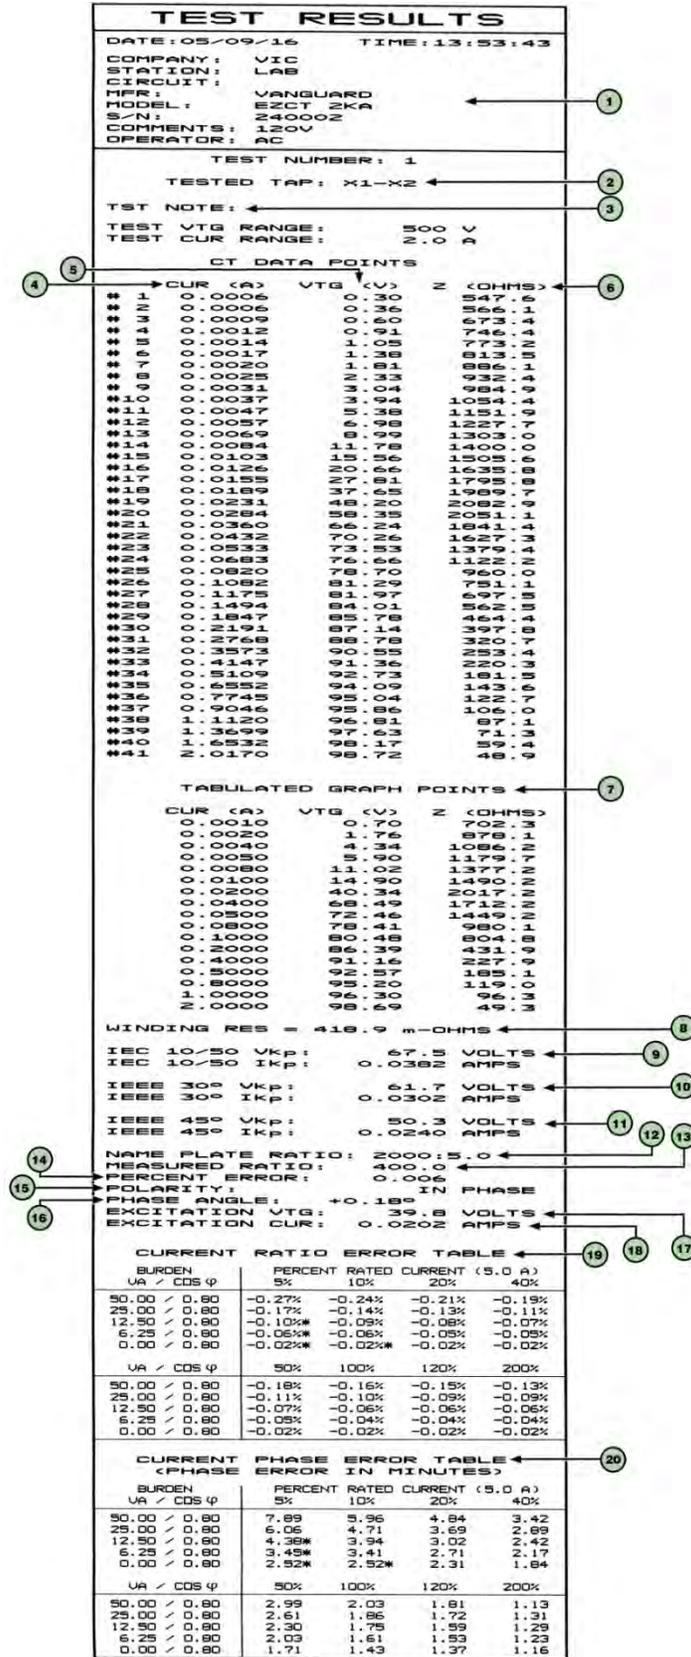
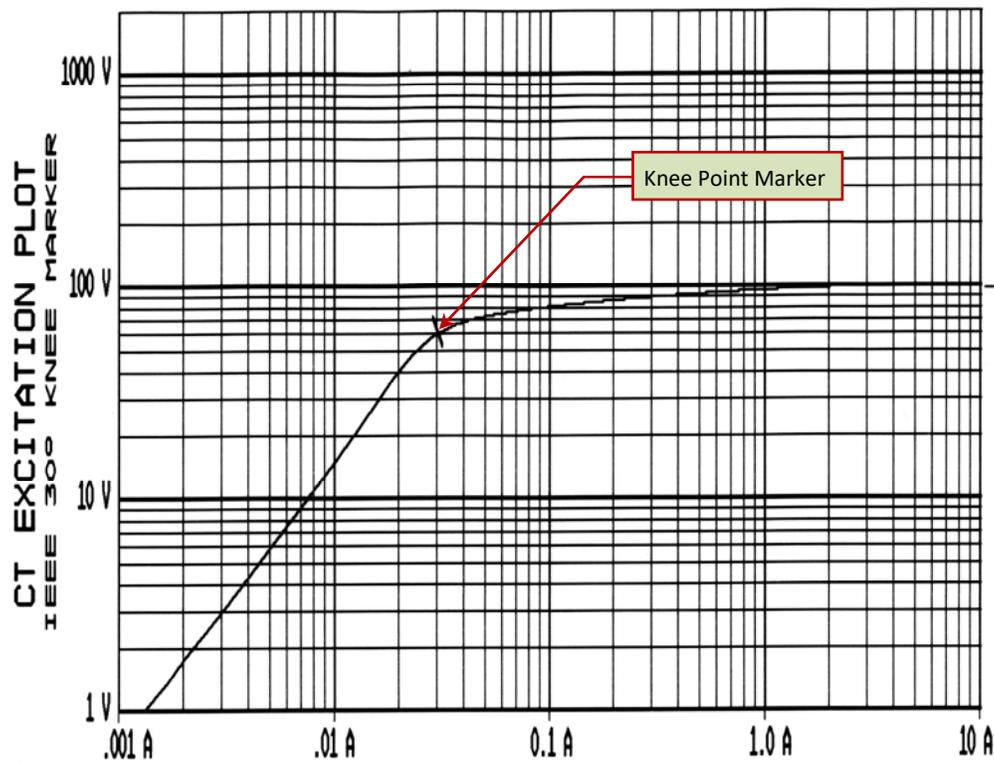
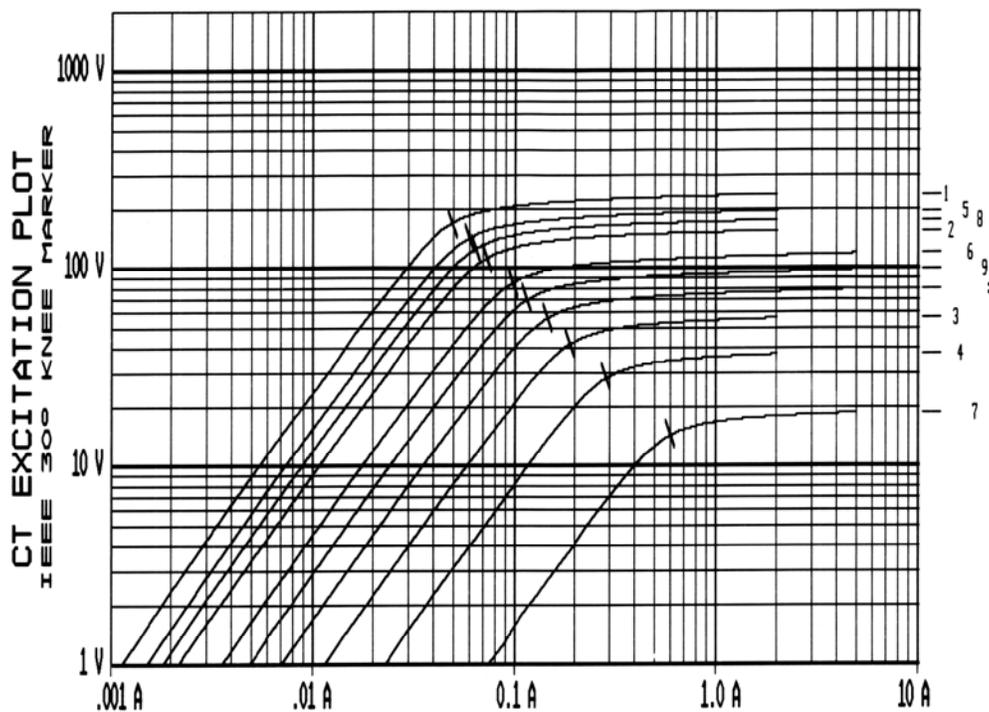

Figure 6. Typical EZCT-2KA Tabulated Report Printout
Figure 7. Typical EZCT-2KA Graphic Report
Figure 8. Typical EZCT-2KA Graphic Report with Multiple Plot Curves
Press the **[1]** key (YES). Selecting this option will print the current ratio error table as part of the tabulated test results. Please see item 19 in Figure 6.
Press the **[1]** key (*YES*) if you would like to print the test results. The test results will be printed on the thermal printer. A typical EZCT-2KA tabulated test report printout is shown in Figure 6. Typical graphic reports are shown in Figure 7 and Figure 8.